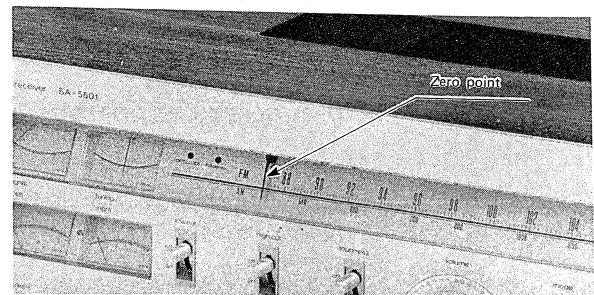

Figure 4-1
- (1) Turn the tuning shaft fully counterclockwise (at the lowest frequency position).
- (2) Align the pointer to the extreme left of the dial scale plate. (See Fig. 4-1.)